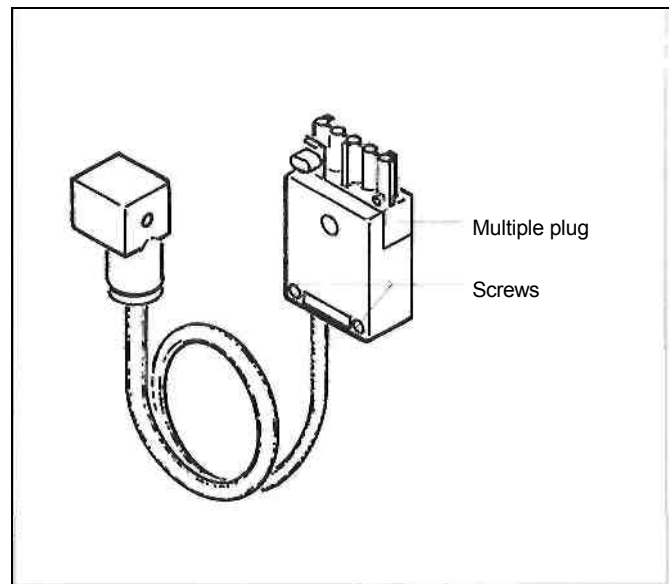

Fig. 10: Power cable with multiple plug
- Remove upper housing of the multiple plug on the supplied power cable (label 1) by releasing the two screws, and replace with the upper housing of the old multiple plug from the burner control (label 2) (Fig. 10).